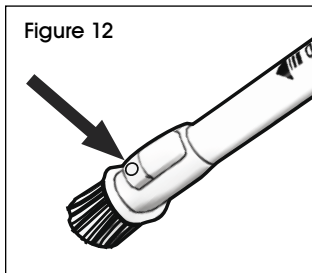

Figure 12
5. To engage the dusting brush, press the dark gray button and slide the brush over the crevice tool until it locks. Reverse the process for storage. (See Figure 12)